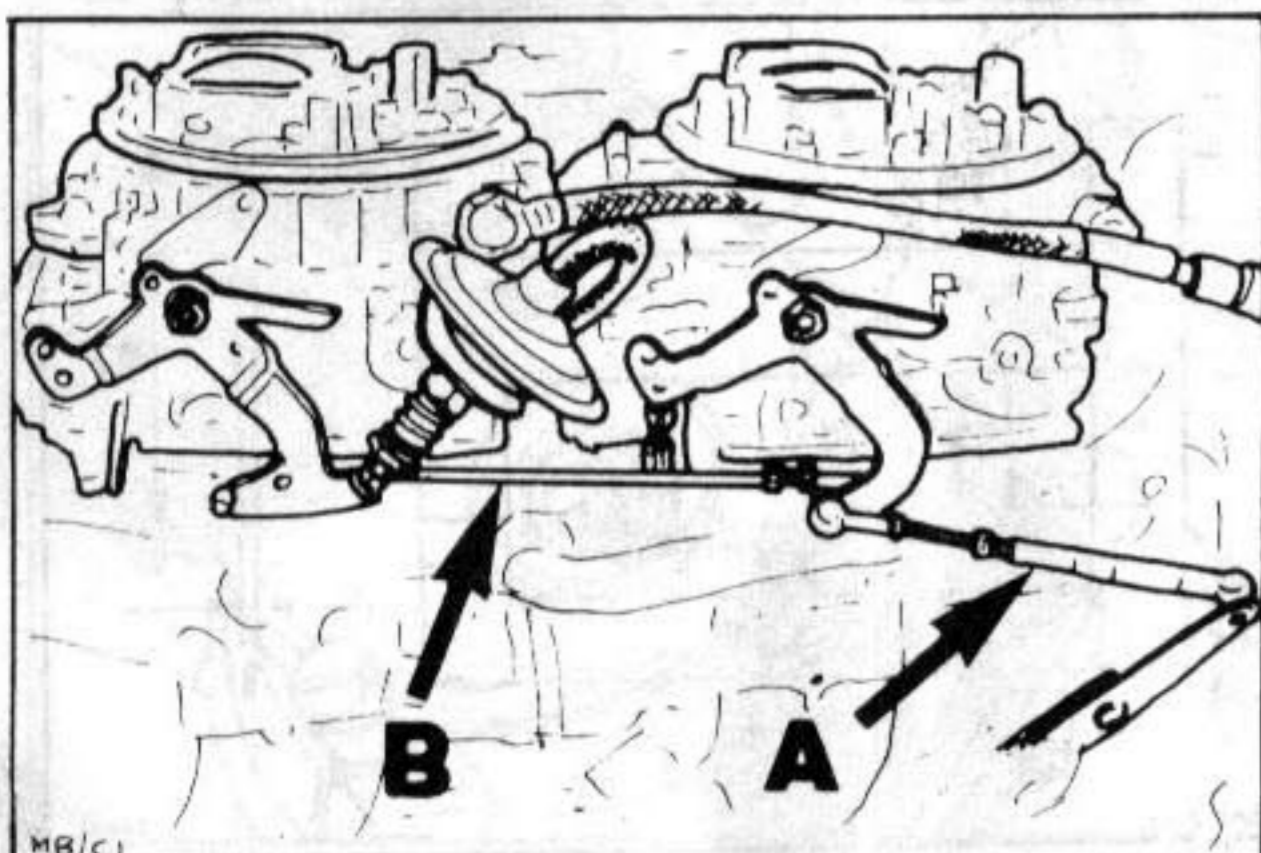

Fig. 1 Throttle linkage rods
- Disconnect throttle linkage rod (A) at front carburettor and interconnecting rod (B) from between carburettors (Fig. 1).
- Reconnect throttle interconnecting rod (B), ensuring that socket on rod coincides exactly with ball head on throttle lever (Fig. 1). If necessary, adjust length of rod to achieve correct alignment. Idle speed and carburettor balance must remain unchanged when rod is connected.
- On manual models, reconnect throttle linkage rod (A, Fig. 1). Roller on
- On automatic models, reconnect throttle linkage rod (A' Fig. 1). With engine running and throttle lever on carburettor held against idle stop, rod should be able to be easily installed while fully extended. If necessary, adjust length of rod to achieve this condition.